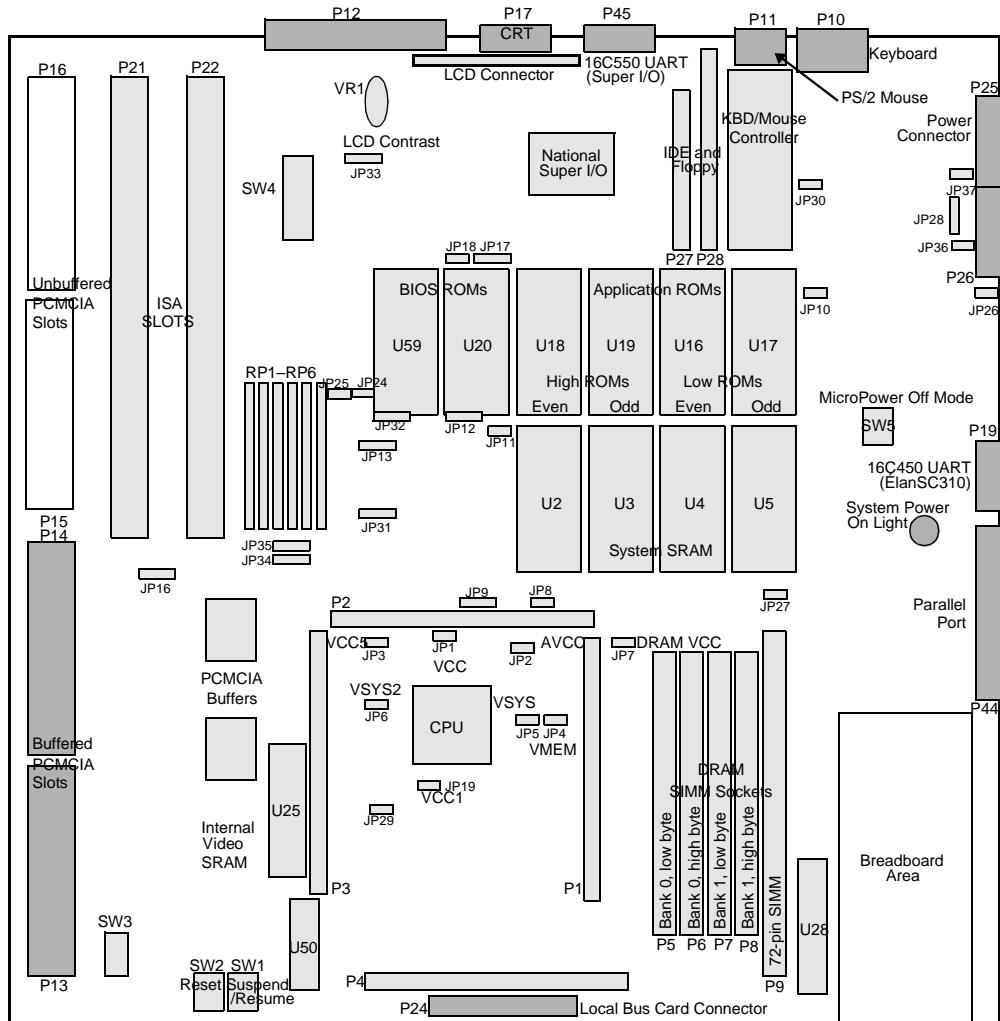

Figure 2-1. ÉlanSC300 Microcontroller Evaluation Board
6. Connect the connectors marked P8 and P9 from the standard PC power supply into the board’s power connectors at P25 and P26. P8 connects to P25 (the six pins closest to the corner of the board); P9 to the other six pins. (See Figure 2-1 on page 2-2 for the connector locations.) *Make sure the black ground wires from P8 and P9 meet in the middle of the board’s P25 and P26 connectors.*